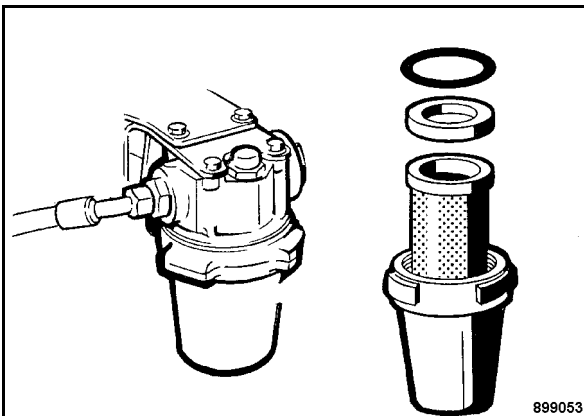

Fig. 100
- Unscrew the filter bowl (Fig. 100) from the filter housing.